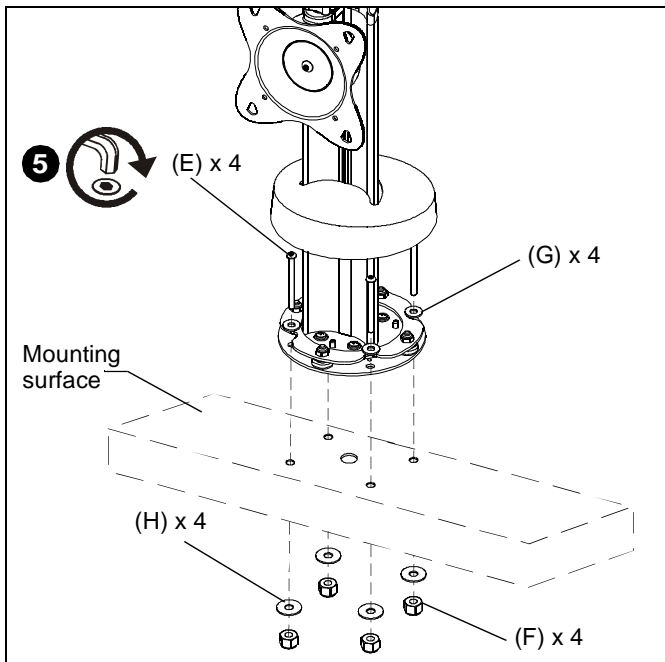

Figure 4
- Attach STS1 to mounting surface using 5/32" hex key (L) and four 1/4-20 x 3" buttonhead cap screws (E), four flat 1/4" flat washers (G), four 1/4" fender washer (H), and four 1/4" Nylock nuts (F). (See Figure 4)